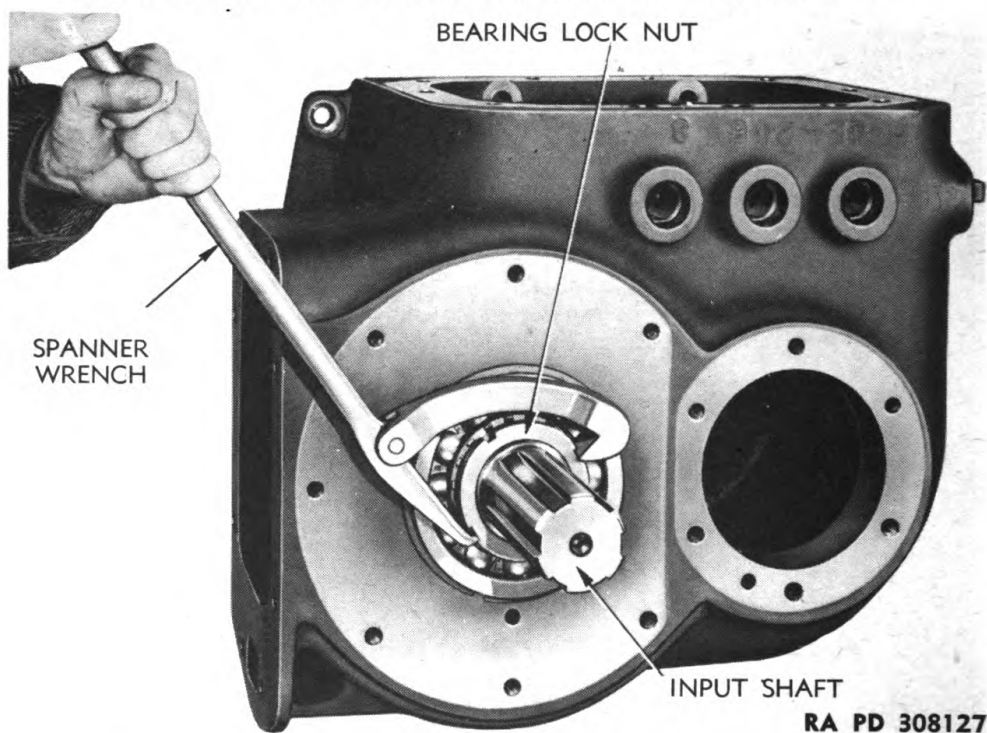

Figure 27 — Removing Lock Nut From Input Shaft, Using Spanner Wrench (41-W-3250-10)
c. Remove Input Shaft Assembly. Bend prong of lock washer out of slot in bearing lock nut and, using spanner wrench (41-W-3250-10) remove nut from shaft (fig. 27). Drive shaft toward front of case until front bearing is out of case. This will free the split lock ring in counterbore of low range pinion and lock ring can be removed. Then drive shaft on out of rear bearing and remove shaft with front bearing from front of case. Remove thrust washer, high range pinion,